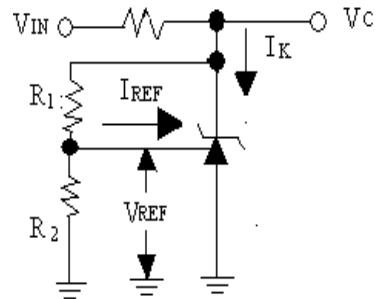

Figure 2. Test Circuit for $V_{KA}<V_{REF}$,
The WSL431 is a 3 terminal adjustable voltage reference with specified thermal stability over applicable commercial temperature ranges. Output voltage may be set to any value between V_{ref} (2.505V) and 20V with two external resistors (see Figure 2).
*2: use Figure 2